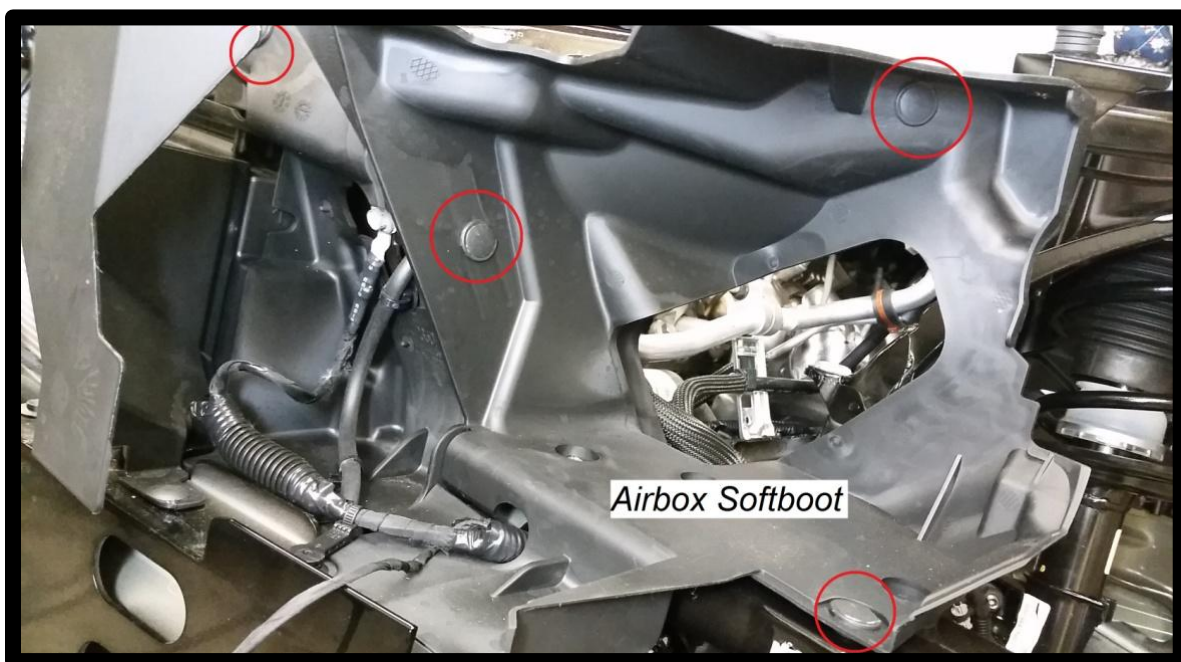

Figure 17: Air Box Soft Boots
19. The air box soft boots on the driver's side will also be removed and discarded, there are four plastic retainers for both pieces, see Figure 17.